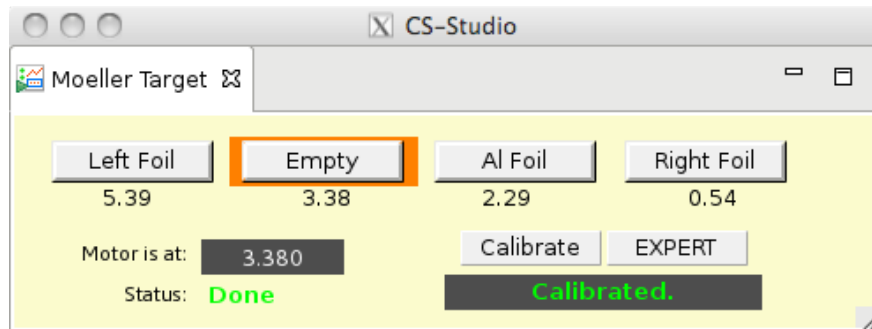

FIG. 5: Control GUI for the Møller target.
- (d) a target control GUI, Fig.5, allows to position desired target on the beam. Left target is the recommended target for the measurements.